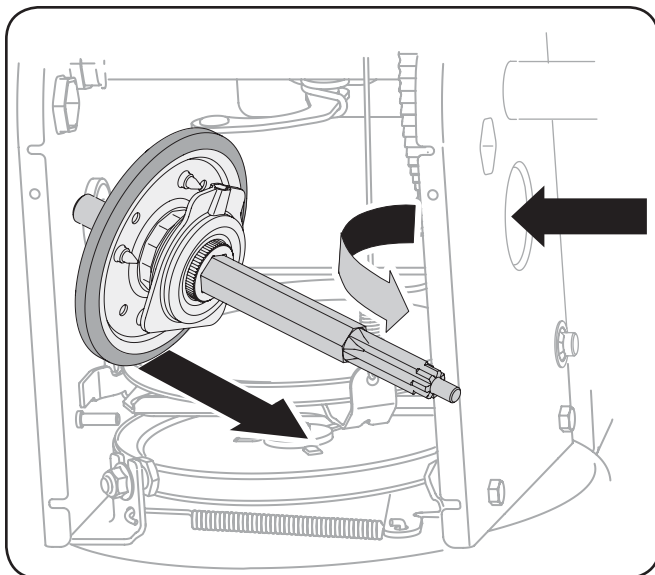

Fig. 7-10
6. Carefully position the hex shaft downward and to the left before carefully sliding the friction wheel assembly off the shaft. See Fig. 7-10.